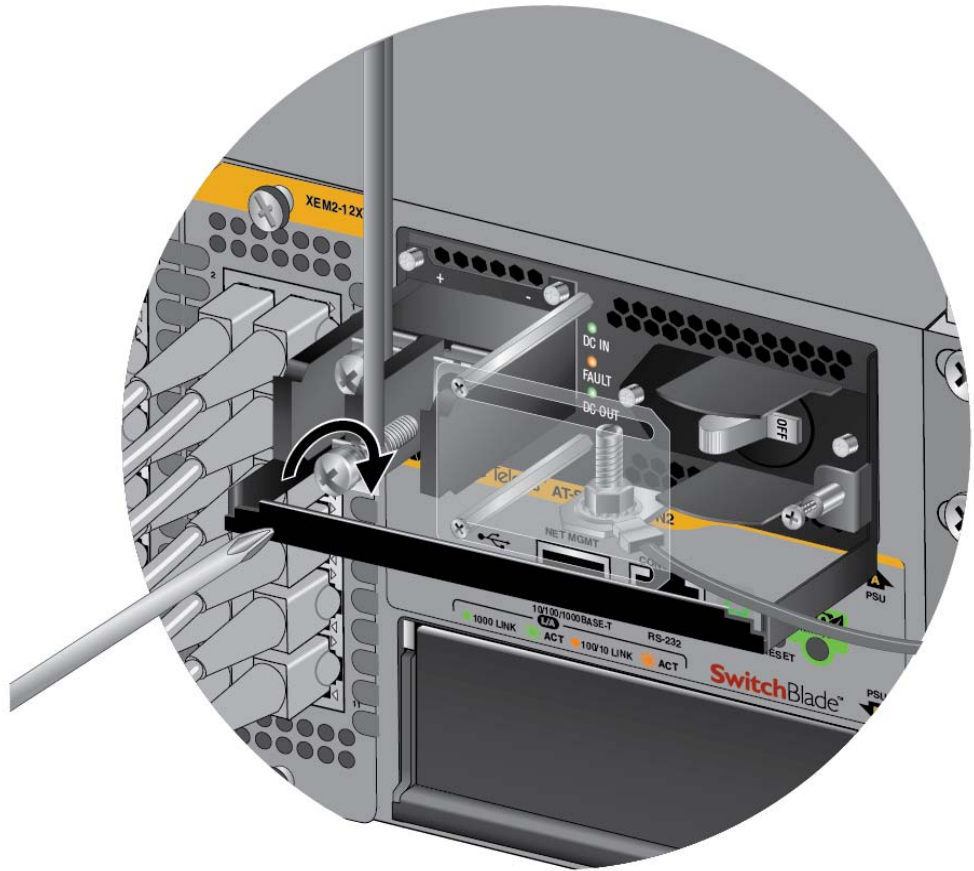

Figure 84. Connecting the Negative Lead Wire with Bare Wire
5. Wrap the negative lead wire clockwise around the remaining terminal screw and secure the screw and wire to the negative terminal connection on the terminal block with a #3 Phillips-head screwdriver, as shown in Figure 84 on page 119. The negative terminal is on the right.